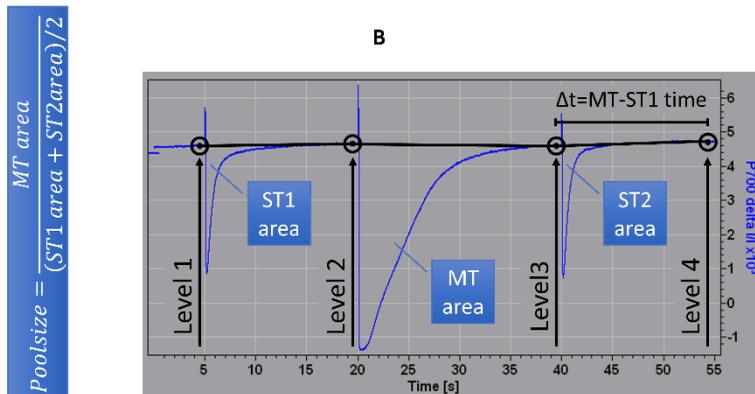
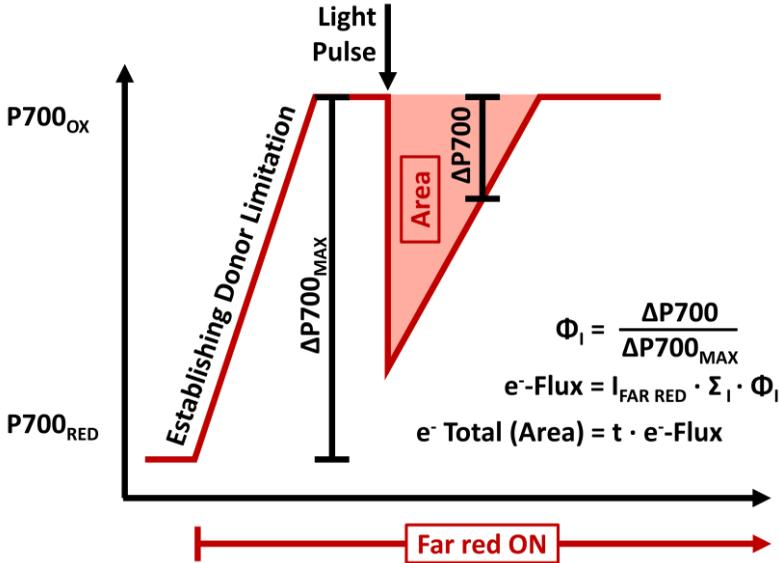

Fig. 63: Electron Pool Size: Evaluation
Fig. 64: Electron Pool Size: Theory
For each reduction/oxidation event, a separate line is calculated (Fig. 63, page 123). For the second ST, the starting point of the straight line is the mean value before the ST. The time position of
- The results are displayed in the window for fitting results. The table lists the signal levels used to construct straight lines, the areas of each reduction/oxidation event, and the poolsize (Fig. 63).
Fig. 64 outlines why the area enclosed by baseline and the flash-induced P700 signal (see Fig. 63) can be viewed as proportional to the total electron flow through photosystem I caused by this flash.